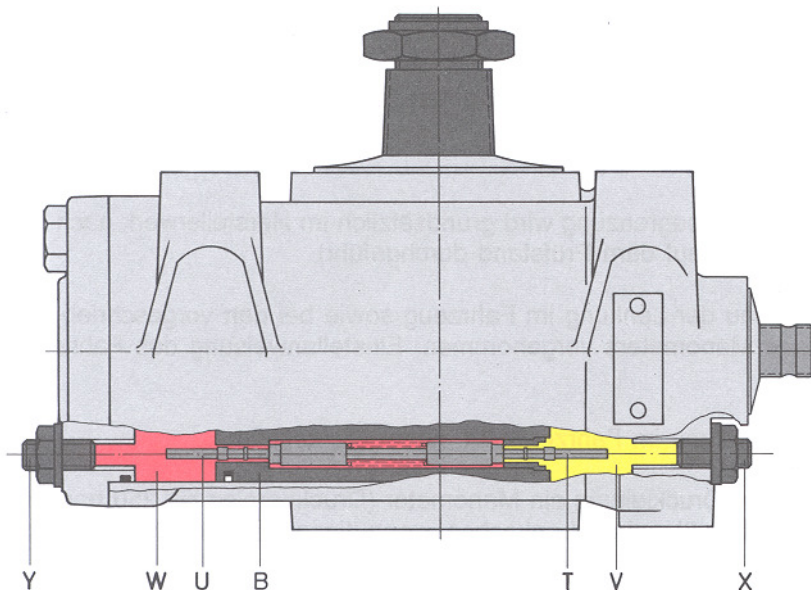

Fig. 4 Steering limiting valve closed
A double-acting steering limiting valve with spring-loaded valve pins (T and U) is arranged in the longitudinal direction in the piston (B). The valve pins project over the right-hand and the left-hand front faces of the piston (**Fig. 4**).